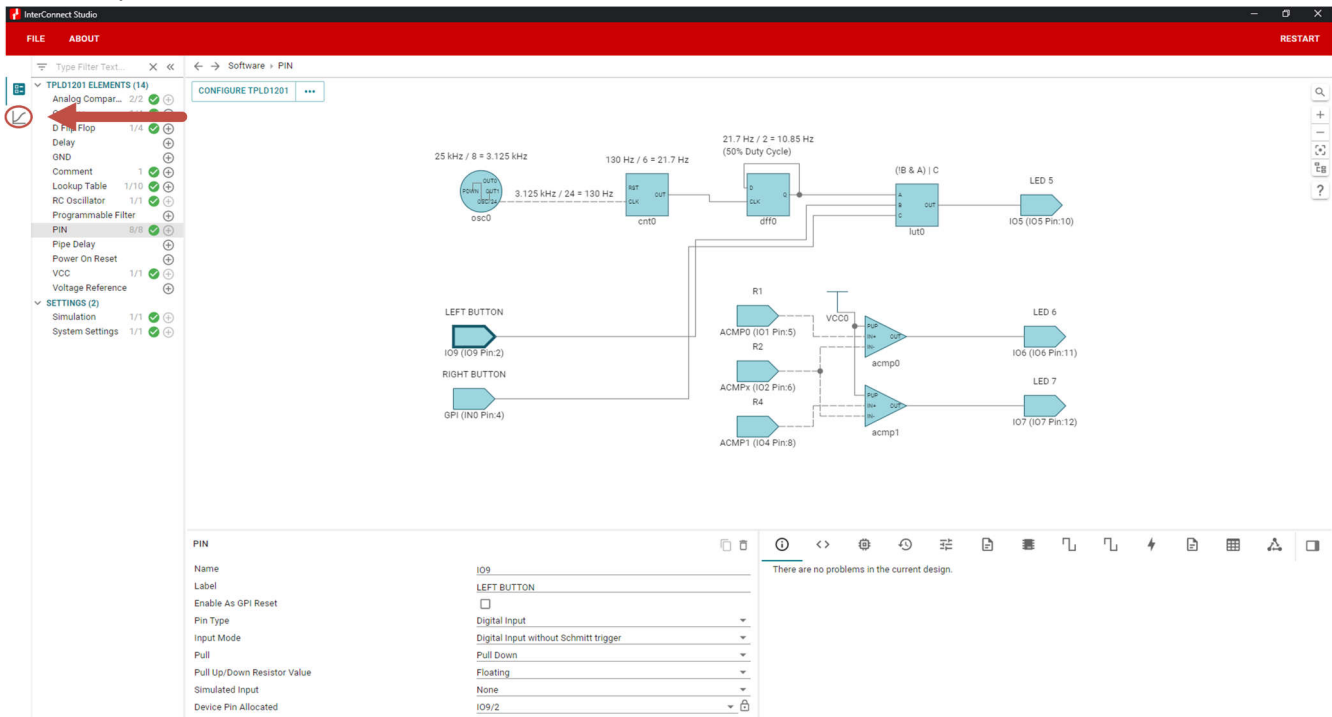

Figure 2-13. Run Simulation
3. Adjust Simulated Input options as shown in Figure 2-13. Run the simulation by clicking the *Simulation* tab in the top left.